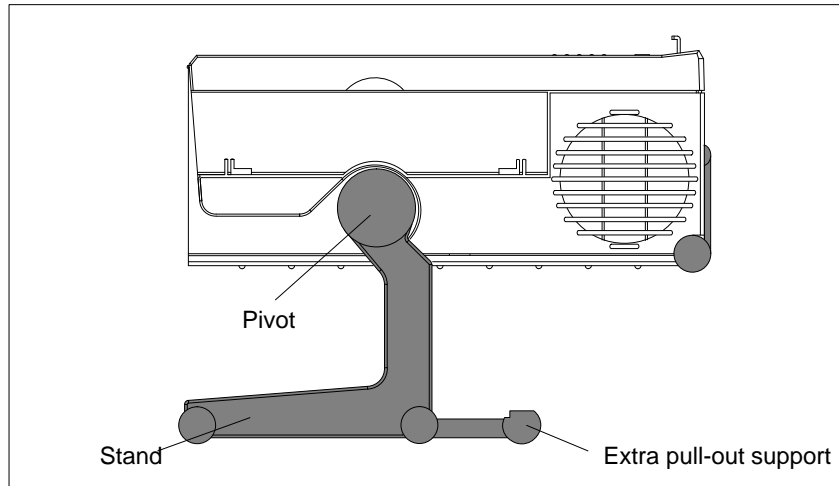

Figure 2-3 Horizontal Operating Position without Keyboard
2. Pull the extra support (Figure 2-3) out of the rear of the stand.
You can remove the keyboard if you are operating the unit in the position shown in Fig. 2-3.